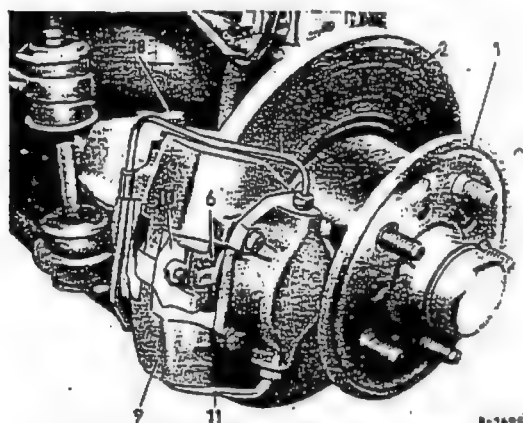

Fig. 42-13/1
1. Detach the connecting line (4) and the brake line (11) from the pressure cylinder (Fig. 42-13/1).